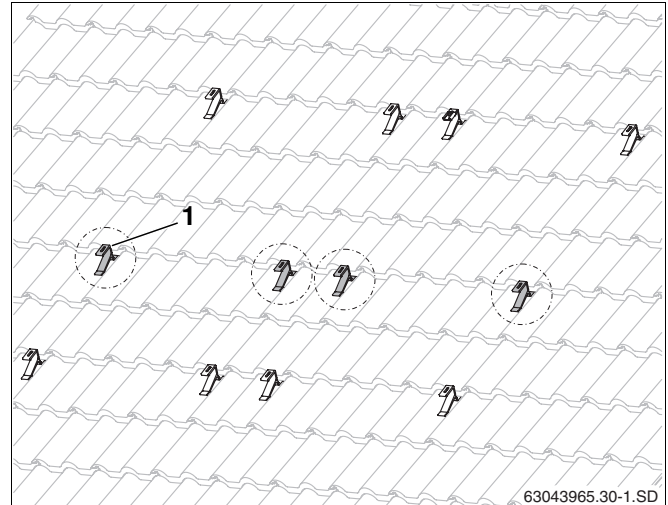

Fig. 28 Additional roof hooks for the wind or wind or snow load profile (here: for two collectors)
- Fasten additional roof hooks (Fig. 28, **Item 1**) as centrally as possible between the upper and lower roof hooks already fitted.